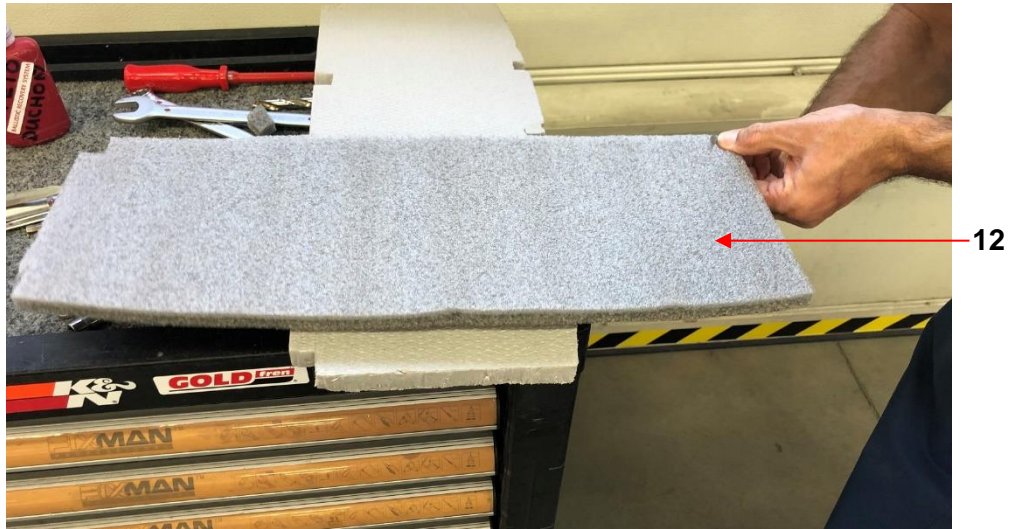
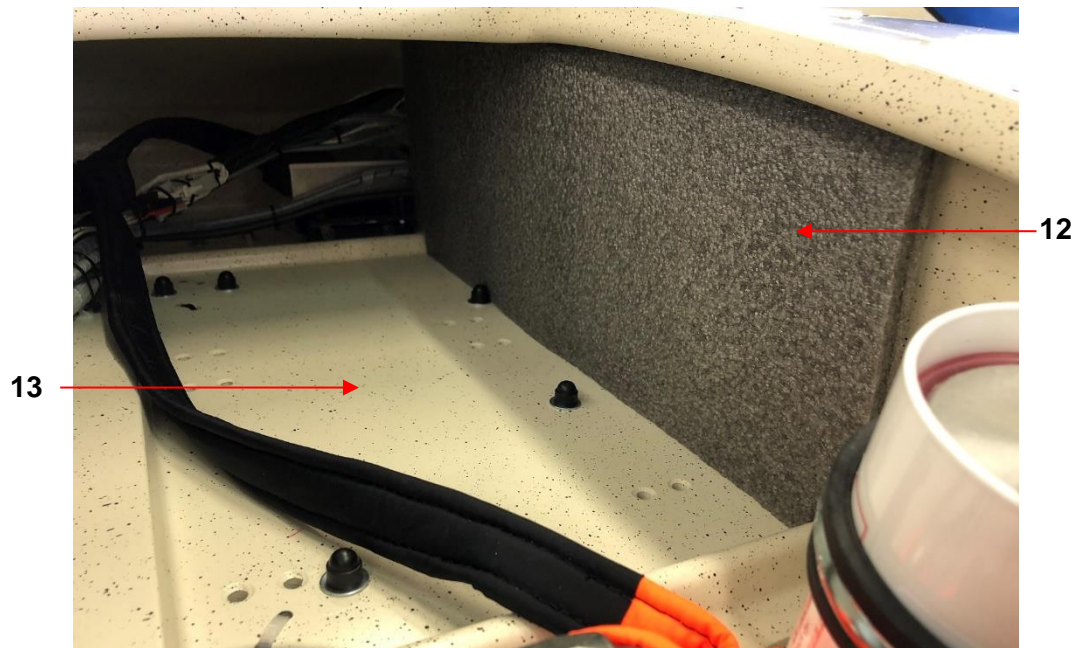

Fig. 7
Fig. 8
4. Cut symmetrically the corners of parachute front spacer DYN-160-15-PP-1 (for fixed landing gear) or DYN-160-15-ZP-1 (for retractable landing gear) (12; Fig. 7) and adapt the shape of parachute front spacer according to the rescue system board (13; Fig. 8) as required. Place the parachute front spacer (12) in the rescue system compartment to cover the firewall.
11. Cut symmetrically the corners of parachute front spacer DYN-160-15-PP-1 (for fixed landing gear) or DYN-160-15-ZP-1 (for retractable landing gear) (12; Fig. 7) and adapt the shape of parachute front spacer according to the rescue system board (13; Fig. 8) as required. Place the parachute front spacer (12) in the rescue system compartment to cover the firewall.